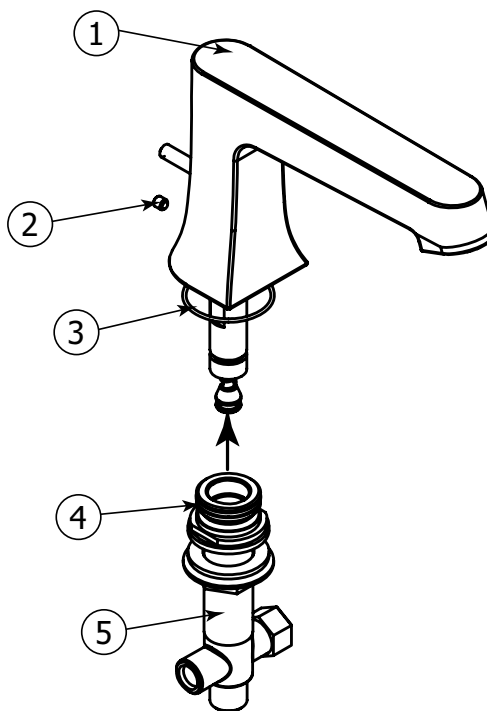

Fig.2
Remove the Allen setscrew (2) and pull out the faucet body (1) from the shank (5). (see Fig.2)
Dévisser la vis de retenue Allen (2) et séparer le bec (1) de son raccord (5). (voir Fig.2)